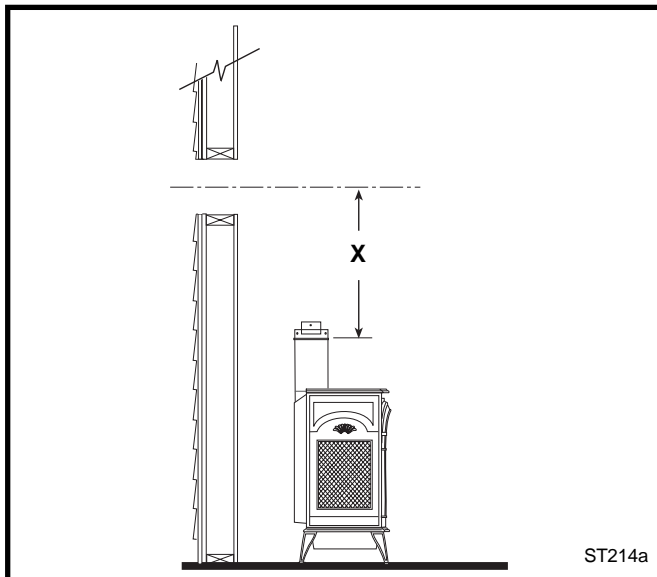

**Fig. 29** Assemble the wall sleeve and firestop.
1. Locate the vent opening on the wall. Refer to Figure 4, Page 6, to determine the opening centerline. It may be necessary to first position the stove and measure to find the hole location. Depending on whether the wall is made of combustible materials, cut the opening to the size shown in Figure 29. Combustible wall openings must be framed as shown in Figure 28.
2. Measure the wall thickness and cut the wall sleeve sections to proper length (MAXIMUM 12"). Assemble the sleeve with the #8 sheet metal screws supplied. Attach the firestop plate to the sleeve end with the holes. (Fig. 29) **NOTE:** The wall sleeve is required in combustible walls only.
3. Install the Wall Firestop/Sleeve assembly into the wall cutout and fasten the firestop to the wall cutout framing members. (Fig. 29)